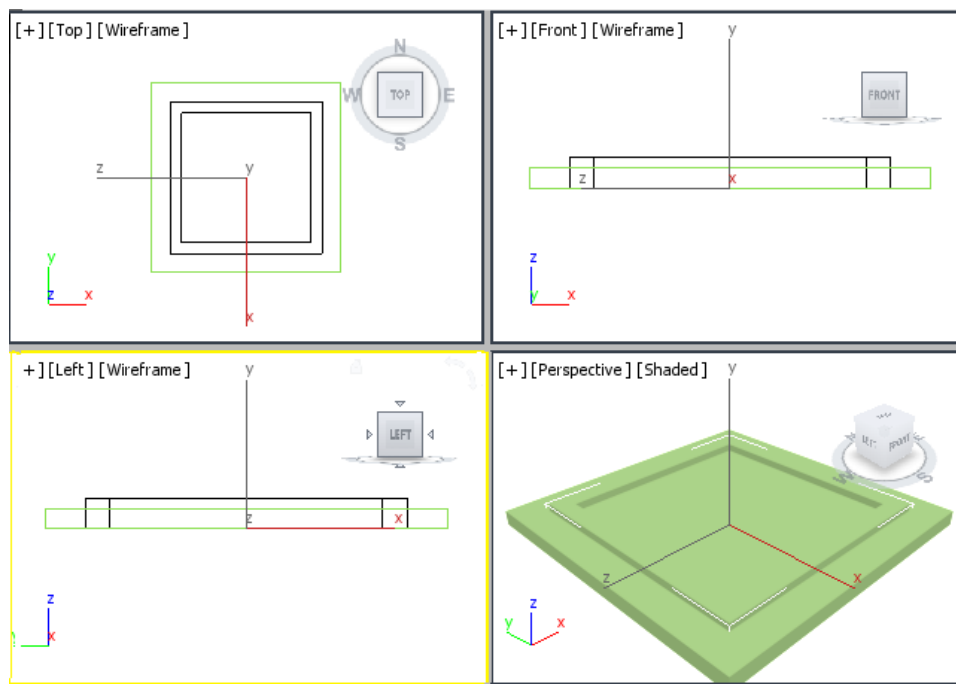

Figure 5-4 The Frame extruded by 15 units
7. In the **Parameters** rollout, set the value **15** in the **Amount** spinner; *Frame* is extruded by 15 units, as shown in Figure 5-4.